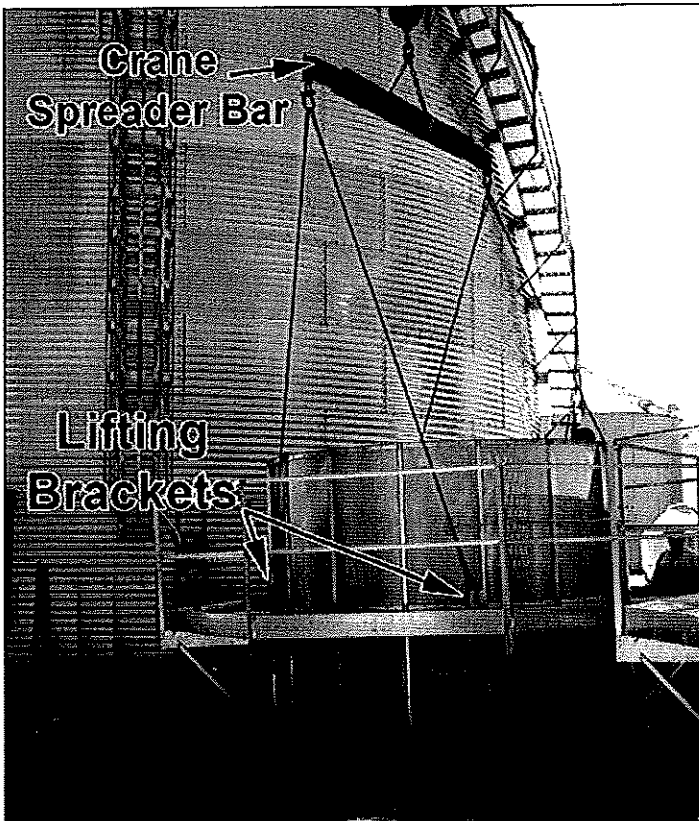

Figure 18
- Attach crane spreader bar hooks to lifting brackets bolted to the center outer channel rings of the third and fourth double screen section on Tower Dryer models 10520-10840 (fourth and fifth screen section on Tower Dryer models 101050 and 101275) and place them onto the second screen section using drift pins to align the holes in the channel rings. See Figure 18. Use 5/16 x 3/4" (7.9 x 19mm.) hex washer head capscrews and whiz locknuts.